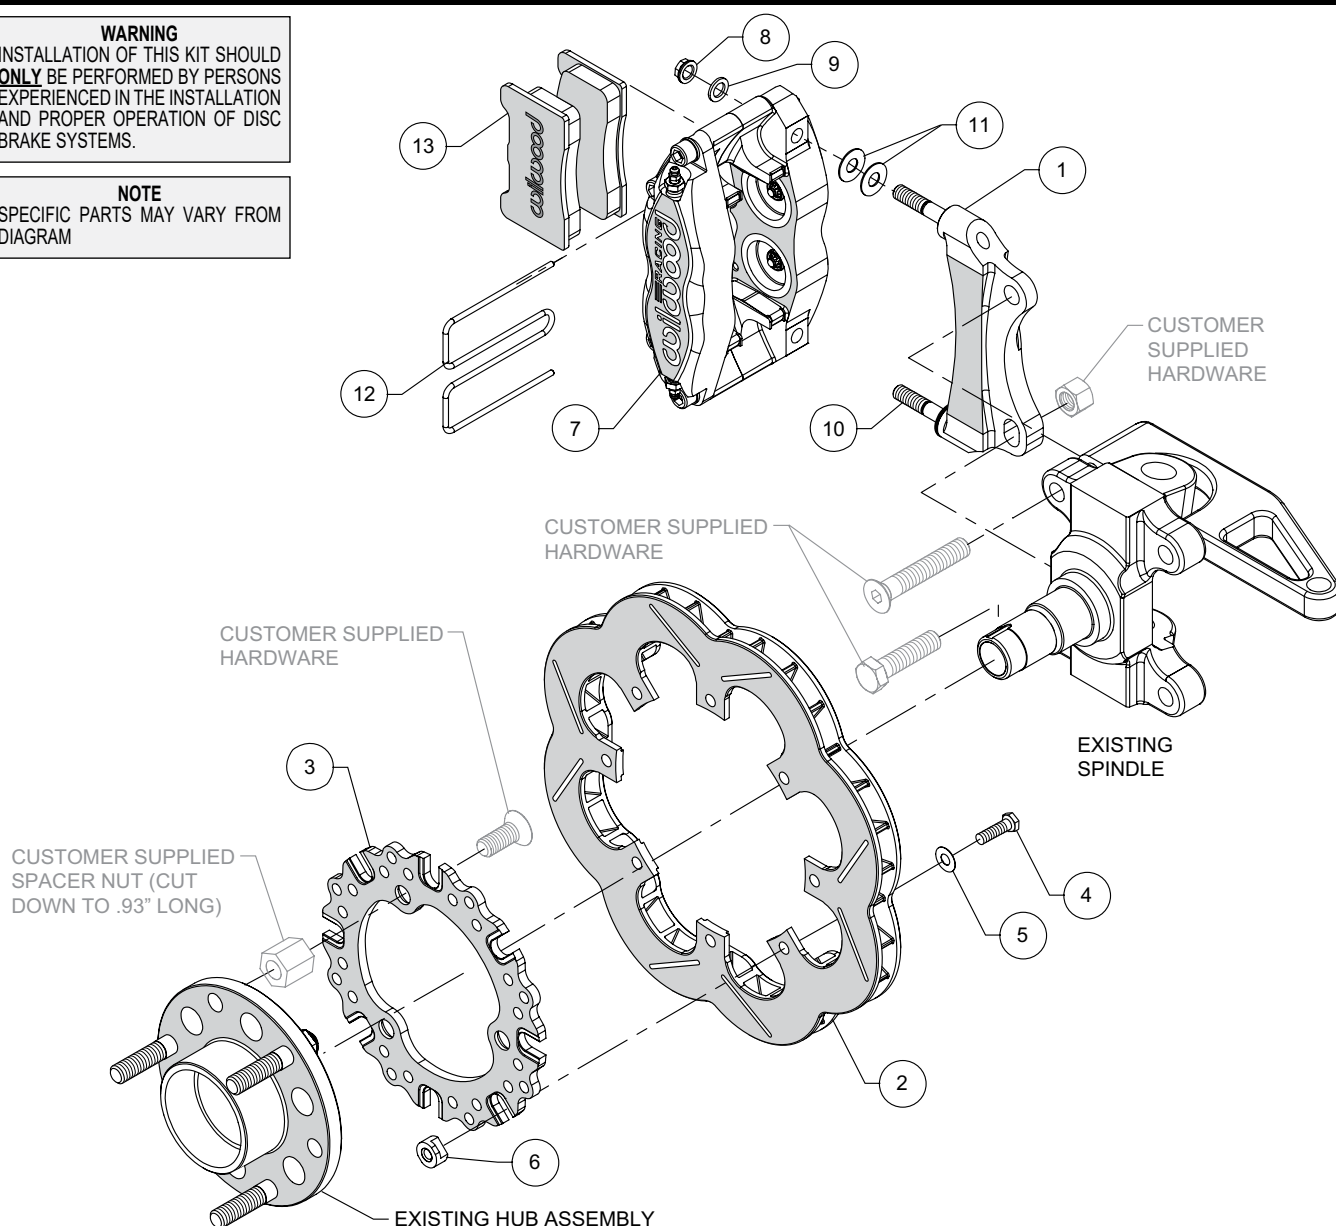

Figure 1. Typical Installation Configuration
NOTE: Numbers in parenthesis refer to the parts list and Figure 1 on the preceding pages.
- The caliper mount bracket (1) should initially be installed with clean, dry threads on the mounting bolts. Orient the bracket as shown in Figure 1, and install using customer supplied hardware. Temporarily tighten the mounting bolts. **NOTE:** The bracket must fit squarely against the mount bosses on the upright. Inspect for interference from casting irregularities, machining ridges, burrs, etc. Remove the bracket mounting bolts one at a time, apply red Loctite® 271 to the threads, and torque to fastener supplier's specification.
- Orient the rotor (2) and rotor adapter (3), as shown in Figure 1, and attach using bolts (4), washers (5) and t-nuts (6), Figure 1. Using an alternating sequence, apply red Loctite® 271 to the bolt threads and torque to 220 in-lbs. Please refer to Wilwood's data sheet DS-669 (available at www.wilwood.com/Pdf/DataSheets/ds669.pdf) for complete t-nut bolt kit installation instructions. **NOTE:** Rotor adapter may be fix mounted to rotor (instead of floating mount) using customer supplied hardware.
- Install the rotor/adapter assembly to the existing hub using customer supplied hardware, Figure 1. **NOTE:** Shorten three spacer nuts to .93" long to properly position the rotor in the caliper. Slide the hub assembly onto the existing spindle and secure using customer supplied hardware.
- Initially place two .035" thick shims (11) on each stud (10) between the caliper and the bracket, as shown in Figure 1. Mount the caliper (7) onto the bracket (1) using lock nuts (8) and washers (9), Figure 1.
- Remove the pad clip retainer (12) from the caliper (7). Insert the disc brake pads (13) into the caliper, with the friction material facing the rotor (2), as shown in Figure 1. Check that the top of the brake pad is flush with the outside diameter of the rotor. If not, adjust by adding or subtracting shims (11) between the caliper and the bracket. After the caliper pad height is set, torque caliper lock nuts (8) to 30 ft-lb. Secure the pads in place with the pad clip retainer.